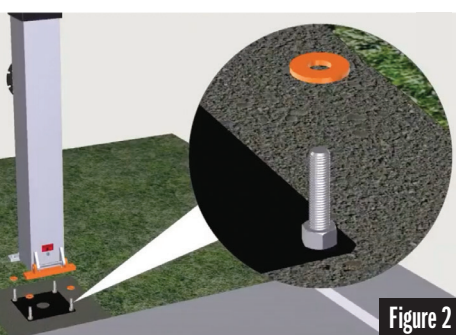

Figure 2
- Using the hardware you set aside from Step 6 on the Bolt Plate Installation page, place (4) Flat Washers on the J-Bolts of the anchor plate. See Figure 2.